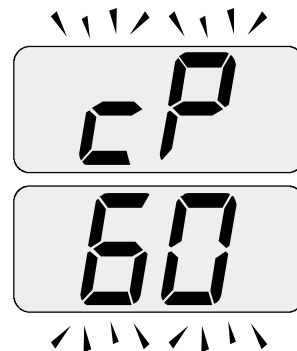

Fig. 11.8
- 19 Press key A to vary the output in chimney sweep mode: when the display shows the letters **cP** that alternate with the heating water temperature value (e.g.**60**), the "chimney sweep function" is at maximum output in heating mode (Fig. 11.8);